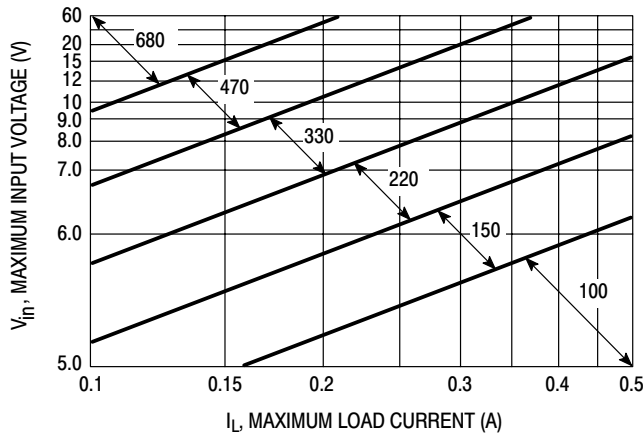
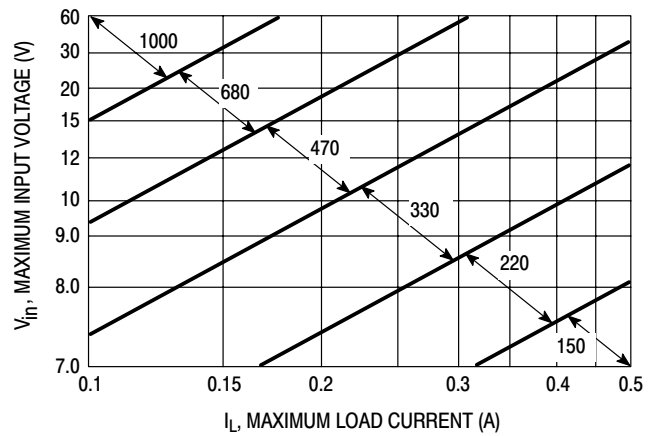

Figure 19. LM2574-3.3
Figure 20. LM2574-5
4. Inductor Selection ($L1$) A. According to the required working conditions, select the correct inductor value using the selection guide from Figures 19 to 23. B. From the appropriate inductor selection guide, identify the inductance region intersected by the Maximum Input Voltage line and the Maximum Load Current line. Each region is identified by an inductance value and an inductor code. C. Select an appropriate inductor from the several different manufacturers part numbers listed in Table 2. The designer must realize that the inductor current rating must be higher than the maximum peak current flowing through the inductor. This maximum peak current can be calculated as follows: $I_{p(max)} = I_{Load(max)} + \frac{(V_{in} - V_{out})t_{on}}{2L}$ where t_{on} is the "on" time of the power switch and $t_{on} = \frac{V_{out}}{V_{in}} \times \frac{1.0}{f_{osc}}$ For additional information about the inductor, see the inductor section in the "EXTERNAL COMPONENTS" section of this data sheet.	4. Inductor Selection ($L1$) A. Use the inductor selection guide shown in Figure 20. B. From the selection guide, the inductance area intersected by the 15 V line and 0.4 A line is 330. C. Inductor value required is 330 μ H. From Table 2, choose an inductor from any of the listed manufacturers.
To simplify the inductor selection process, an inductor selection guide for the LM2574 regulator was added to this data sheet (Figures 19 through 23). This guide assumes that the regulator is operating in the continuous mode, and selects an inductor that will allow a peak-to-peak inductor ripple current to be a certain percentage of the maximum design load current. This percentage is allowed to change as different design load currents are selected. For light loads (less than approximately 0.2 A) it may be desirable to operate the regulator in the discontinuous mode, because the inductor value and size can be kept relatively low. Consequently, the percentage of inductor peak-to-peak